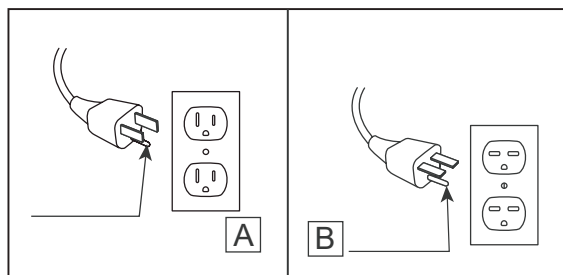

Fig. 1
11. Connect to properly grounded outlets only. This heater is for use on 120 volts. The cord has a plug as shown at A in Fig.1 Do not use a 2 prong adapter. Never use with an extension cord or relocatable power tap (outlet/power strip).